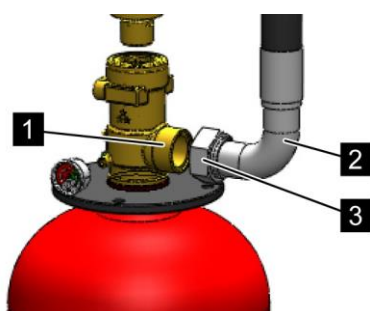

Fig. 140: Remove the hose
4. ➤ Unscrew the cap nut (Fig. 140/3) of the hose (Fig. 140/2) or connecting piece (for the version without hose) from the valve outlet (Fig. 140/1).
5. ➤ Attach the anti-recoil cap on the valve outlet (Fig. 140/1).